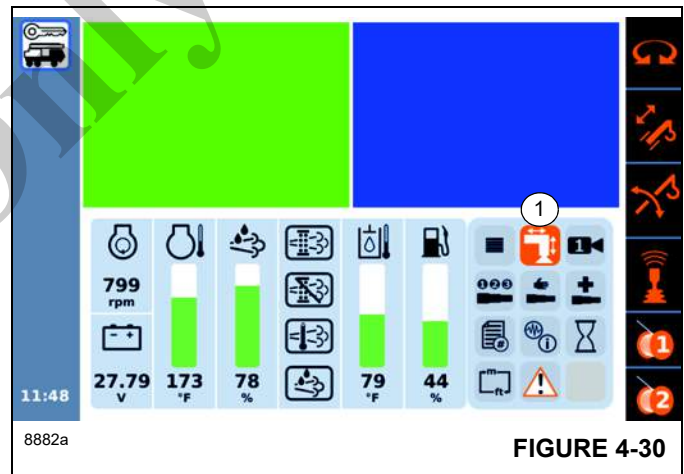
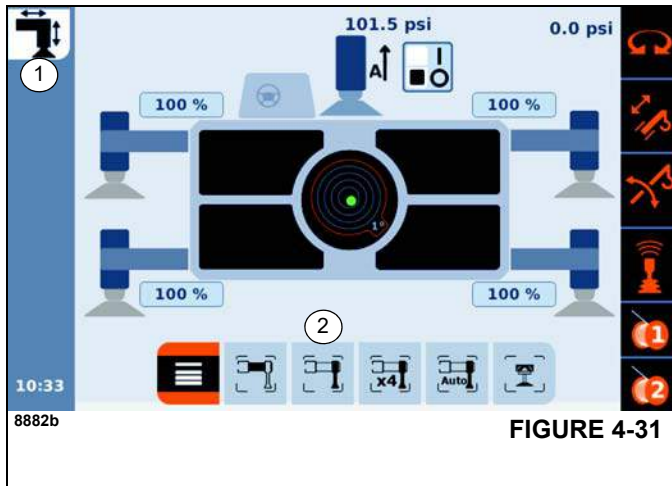
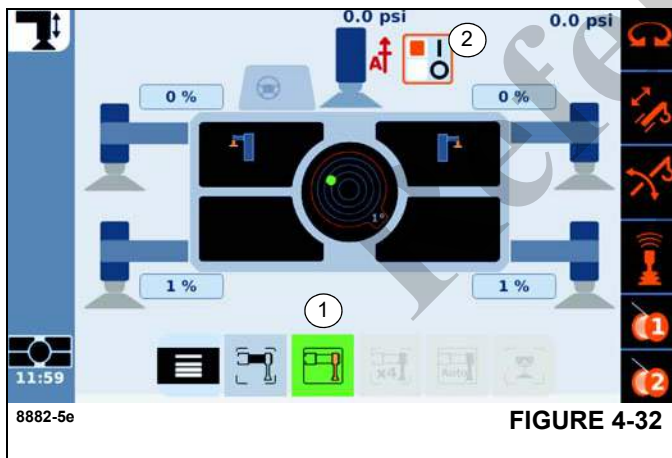
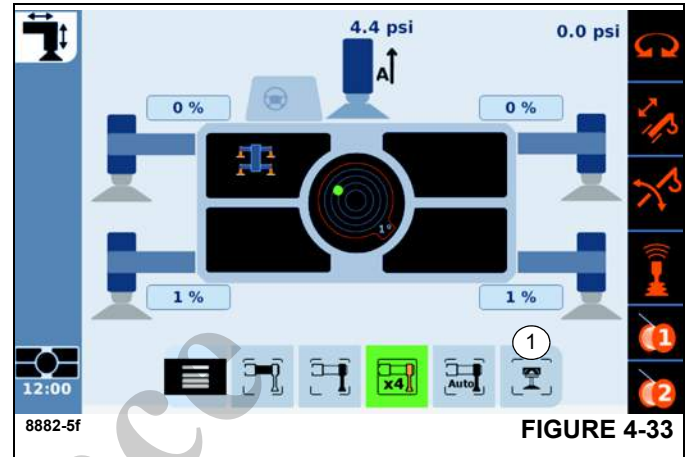

FIGURE 4-30
FIGURE 4-31
FIGURE 4-32
FIGURE 4-33
To activate Cribbing Mode from the Superstructure Cab ODM, select the Outrigger Menu (1), (Figure 4-30), select the Outrigger Jack (2), (Figure 4-31), and then toggle the Cribbing Mode Switch, that appears next to the Center Front Stabilizer (CFS) to the ON position (2), (Figure 4-32). For additional information on the Outrigger Menu, refer to *Outrigger Menu*, page 3-61.
2. Go to the ODM, CCS Home Screen, Main Menu. Scroll to the Outrigger Icon (1), (Figure 4-30).
3. Open the Outrigger Screen (1), (Figure 4-31), scroll to, and select the Outrigger Jack Select (2), (Figure 4-31) from the Radio Buttons across the bottom of the Screen.
4. The Cribbing Mode Enable Switch (2), (Figure 4-32) will now appear next to the Center Front Stabilizer (CFS) at the top of the screen.
5. Fully extend all outrigger beams until the ODM reads 100% (1), (Figure 4-31). Fully extend the four outrigger jacks and level the crane.
6. Press the Center Front Stabilizer (CFS) (1), (Figure 4-33) to raise the CFS into place. Place cribbing beneath the CFS.
- **Cribbing Mode Enable Switch:** Toggle the Cribbing Mode Enable Switch (2), (Figure 4-32) to the ON position (Orange indicates ON position), then press the Cribbing Mode on the ODM (1), (Figure 4-33).
9. Retract the main front outrigger jacks off the ground by selecting the Retract push button and the Jack Selector (1), (Figure 4-32) push buttons together to raise the main front outrigger jacks off the ground.
11. Extend the main front outrigger jacks so that the Center Front Stabilizer (CFS) is unloaded and comes off the ground/cribbing by pressing the Extend push button and the Jack Selector push buttons together (Figure 4-32).
13. Extend the CFS until movement ceases by pressing the Extend push button and the Center Front Stabilizer push buttons together (Figure 4-33).